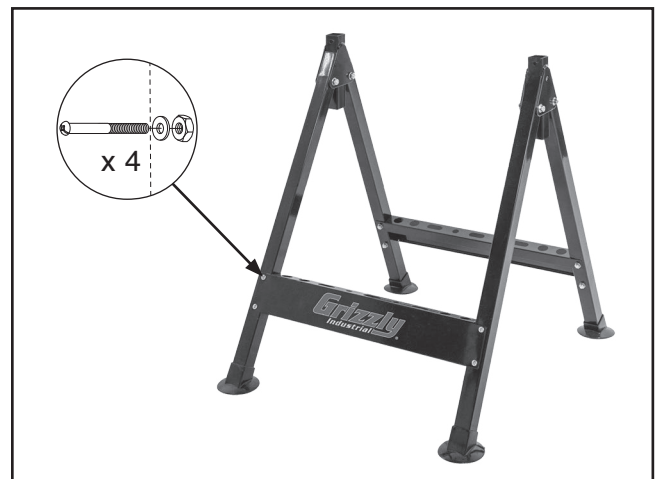

Figure 6. Second stand leg secured to braces.
3. Slide second stand leg into opposite ends of braces and secure with (4) M6-1 x 37 Phillips head screws, 6mm flat washers, and M6-1 hex nuts (see **Figure 6**).